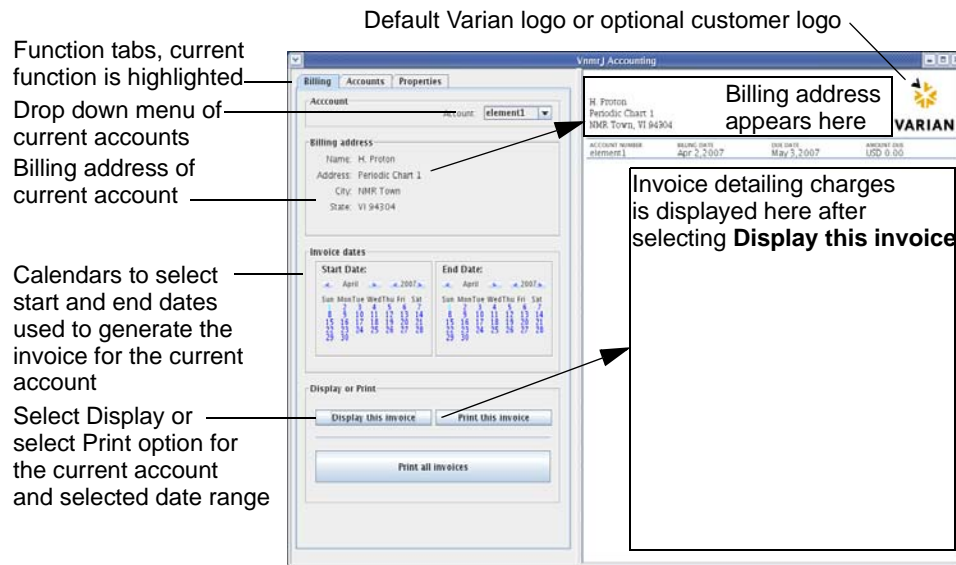

Figure 8. VnmrJ Accounting Billing Window
The accounting billing window, similar to the one shown in **Figure 8**, opens when VnmrJ Accounting is started.
- Click on the **Display this invoice** button to display the invoice on the right side of the Billing tab, see **Figure 8**.